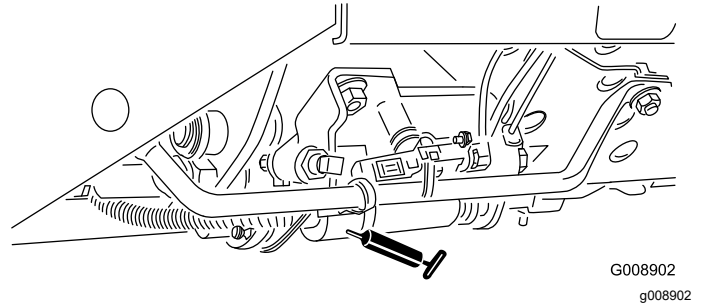

Figure 53
- Mow/transport slide (Figure 53)